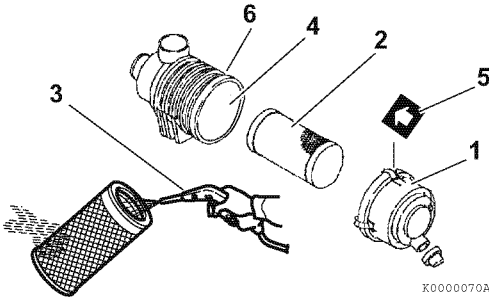
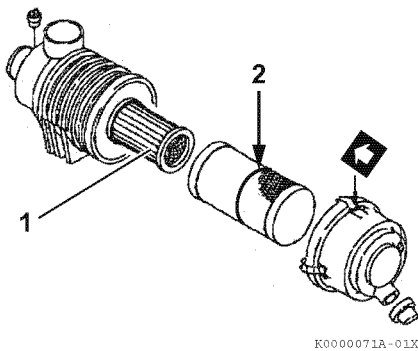

Figure 5-9
Figure 5-10
Note that a typical air cleaner is shown in Figure 5-9 and Figure 5-10 for illustrative purposes only.
1. Unlatch and remove the air cleaner cover (Figure 5-9, (1)).
2. Remove the element (Figure 5-9, (2)) (outer element if equipped with two elements).
3. Blow air (Figure 5-9, (3)) through the element from the inside out using 42 - 71 psi (0.29 - 0.49 MPa; 3.0 - 5.0 kgf/cm2) compressed air to remove the particulates. Use the lowest possible air pressure to remove the dust without damaging the element.
4. If the air cleaner is equipped with a double element, only remove and replace the inner element (Figure 5-10, (1)) if the engine lacks power or the dust indicator actuates (if equipped).
8. Install the element into the air cleaner case (Figure 5-9, (4)).
*Note: If there is a red line (Figure 5-10, (2)) in the outer element, reinsert the element until the overlap position of red line and end face of the air cleaner case.*
9. Reinstall the air cleaner cover making sure you match the arrow (Figure 5-9, (5)) on the cover with the arrow on the case (Figure 5-9, (6)).
Replace the air cleaner element (**Figure 5-9, (2)**) every 500 hours even if it is not damaged or dirty.
When replacing the element, clean the inside of the air cleaner case (**Figure 5-9, (4)**).
If the air cleaner is equipped with a double element, *only remove and replace the inner element (**Figure 5-10, (1)**) if the engine lacks power or the dust indicator actuates (if equipped)*. This is in addition to replacing the outer element.